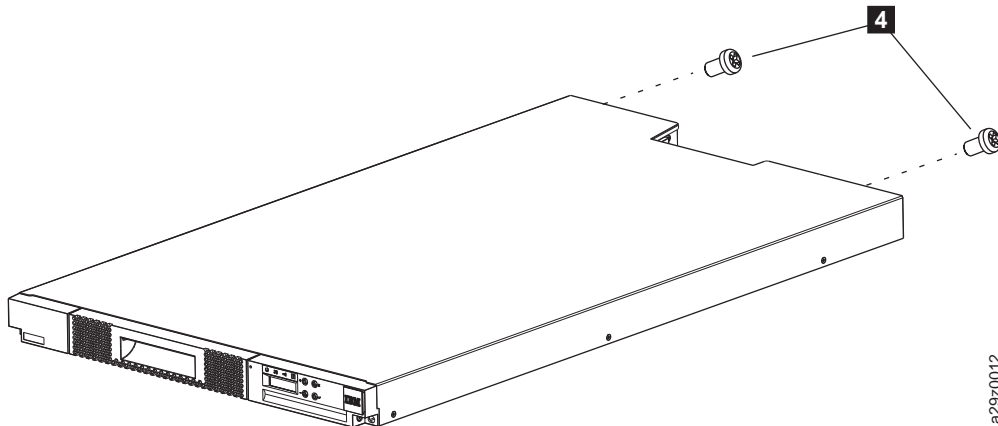

Figure 138. Attaching the cover to the library chassis (rear screws)
4. Attach the deskside cover with the 2 large pan-head screws **4** on the rear of the library (Figure 138).